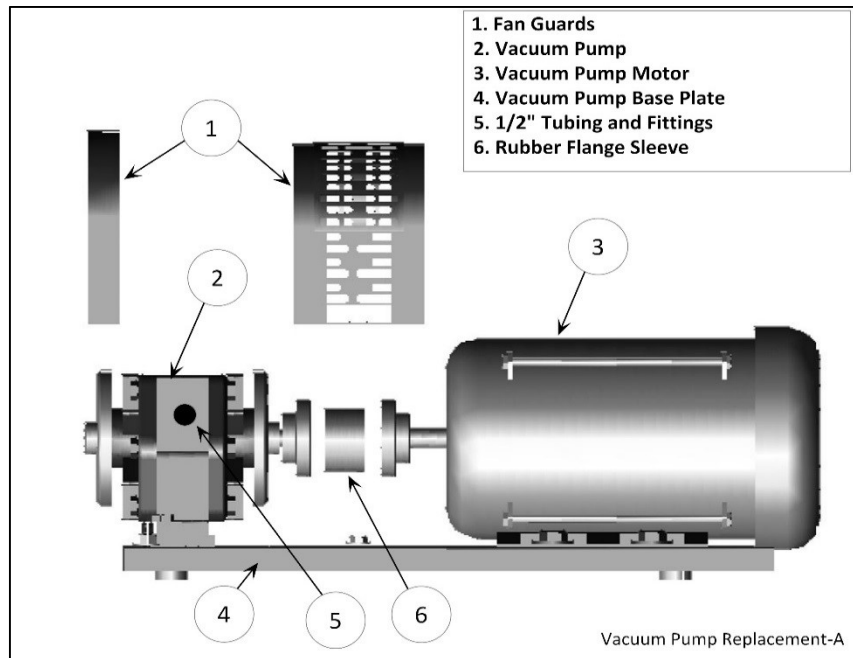

Figure 9-14: Vacuum Pump Components
- **See Figures 9-14 & 9-15.**